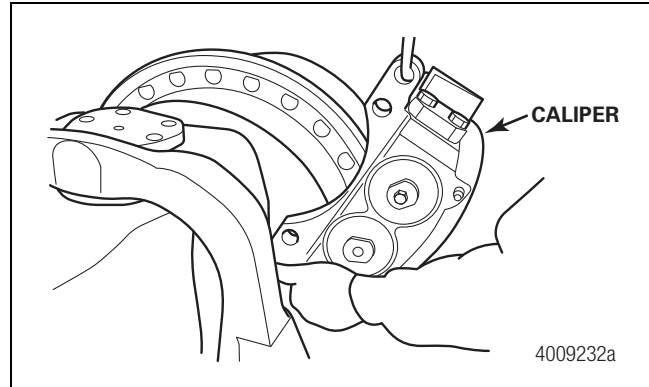

Figure 17.5
- 1. Use a suitable lifting device to install the caliper on the wheel end. Figure 17.5.